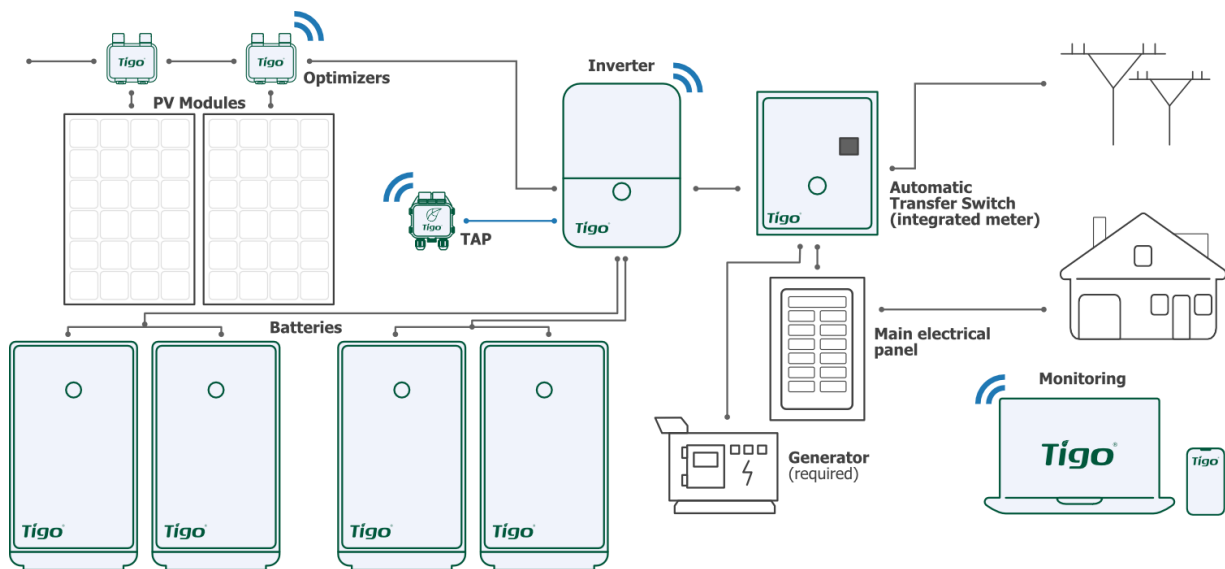

Figure 2: Off-grid application with 4x 10kWh batteries
- 4 x 10kWh EI Batteries (see Figure 2 below)